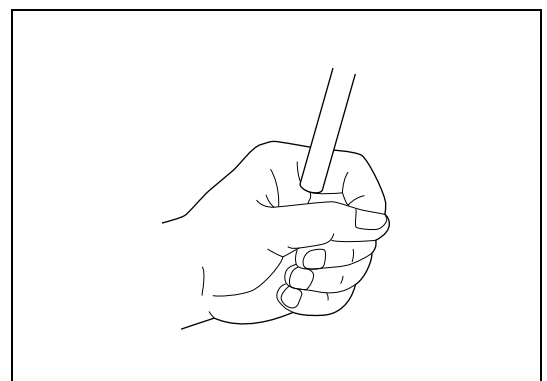

Figure 3.5
- 2 Gently place a hand around the distal end of the scope and make sure the color tones of your hand displayed on the monitor are natural. (Refer to Figure 3.5)